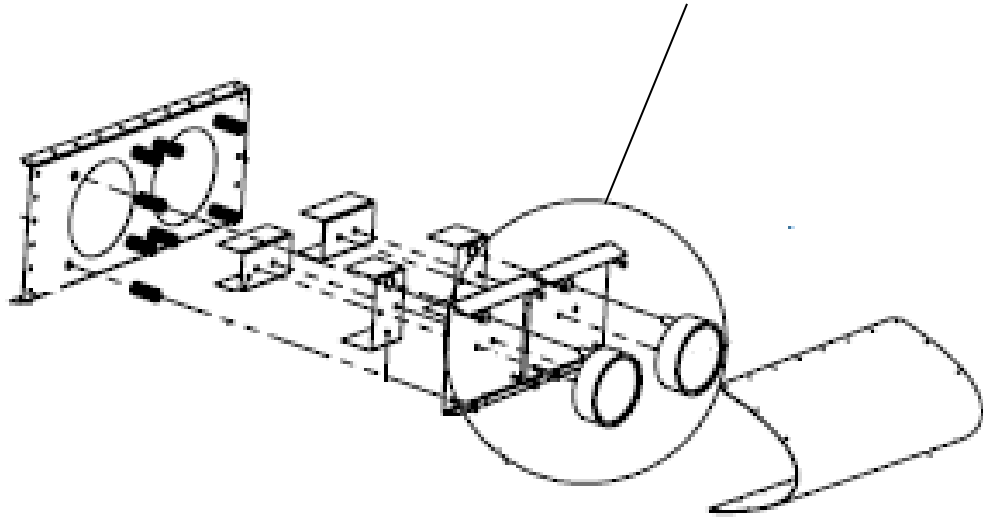

Figure 73 : Landing and taxi light installation.
- Observe correct orientation of the angled plates. Also refer to Figure 73.
- Tie wrap the wires together and to the angled plates (through hole (5)) with a plastic tubular standoff / spacer (6) to distance the wires from the angled plate's edge.